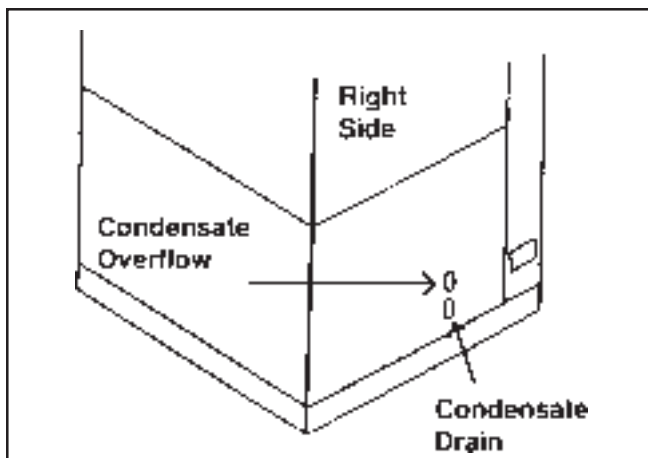

Figure 9. Condensate drain tube outlet.
2. Above the fitting is a hole in the cabinet. Behind this hole is a 1/2" OD tube which serves as a condensate relief if the lower drain becomes blocked (see Figure 9).
2. Inspect the condensate drainage system - this can be done by removing the screws that secure the lower front panel to the unit. There should be no signs of water leakage from any of the visible fittings or hose (see Figure 9).